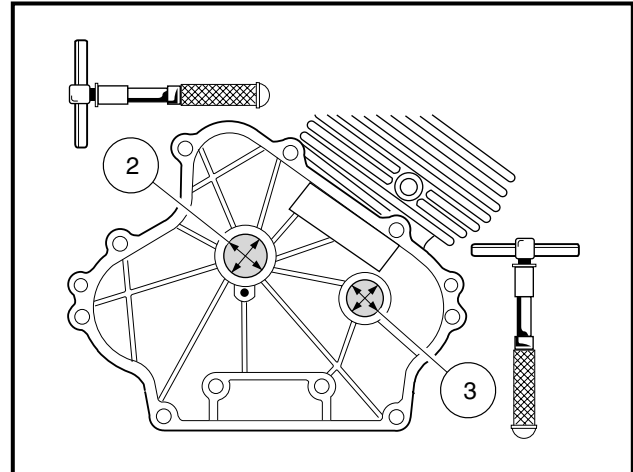

Figure 13-92 Inspect Bearing Surfaces in Crankcase
1. Inspect the camshaft surfaces, one in the crankcase (3) (**Figure 13-92, Page 13-42**) and the other in the crankcase cover (1) (**Figure 13-93, Page 13-43**). Using an inside micrometer or telescoping gauge, measure the inside diameter of each bearing surface. If the inside diameter is greater than 0.9080 inch (23.063 mm), replace the crankcase and/or the crankcase cover.
2. Inspect the crankshaft bearing surface (2) in the crankcase. Using an inside micrometer or telescoping gauge, measure the inside diameter of the bearing surface. If the inside diameter is greater than 1.1841 inch (30.075 mm), replace the crankcase (**Figure 13-92, Page 13-42**).